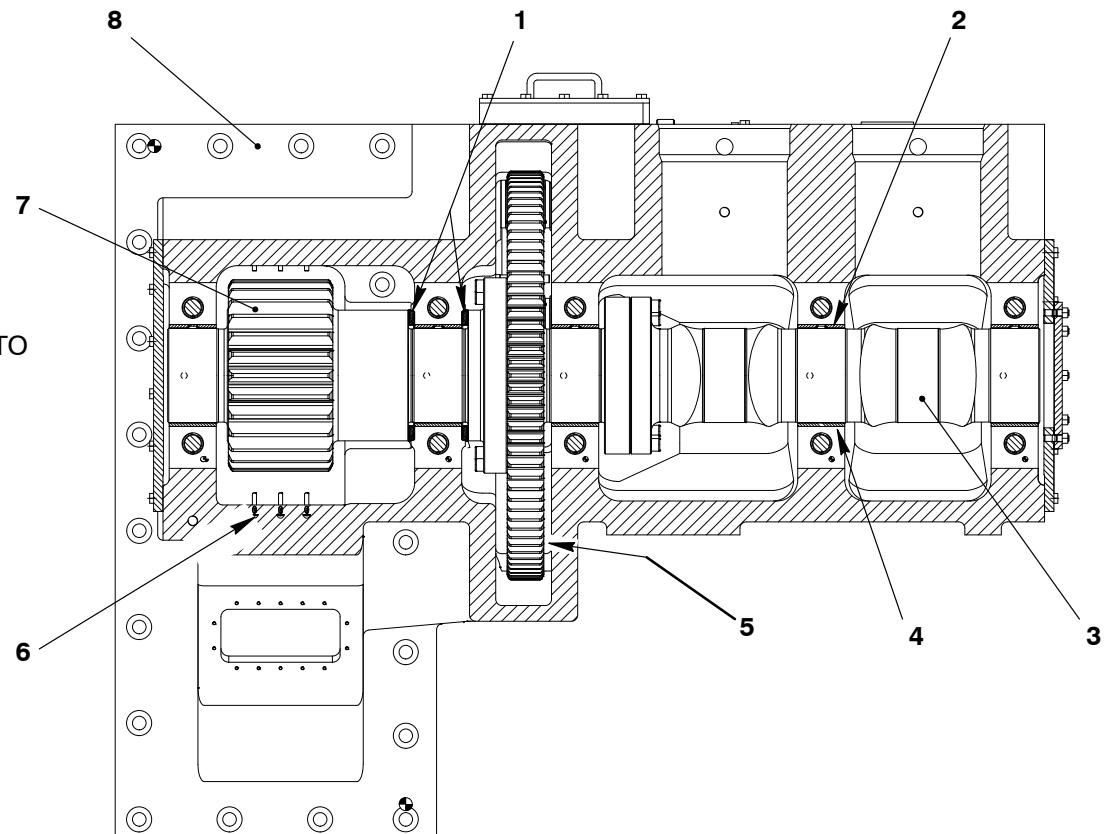

Fig. 2: Location of Items
Oil flows through bores in the housing (8, Fig. 2) to lubricate the bearings and fuel pumps. Oil also flows through the nozzles (6) to lubricate the intermediate wheel (7) and the gear wheel (5).